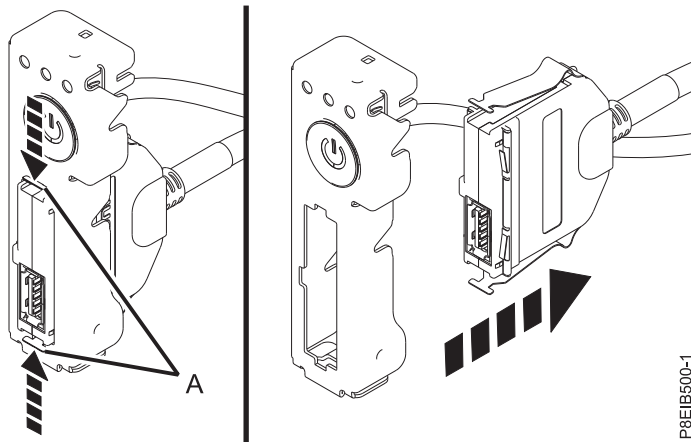

Figure 69. Removing front USB cable and connector from power switch
- 10. Pressing the latch releases (A) on the connector, disconnect the front USB cable and connector from the power switch. See Figure 69 on page 57.